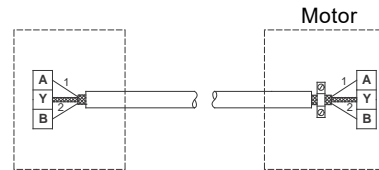

Fig. 12 Connection with screened 2-core cable
- If you have used a screened 2-core cable in the existing installation, connect the cable as shown in fig. 12.